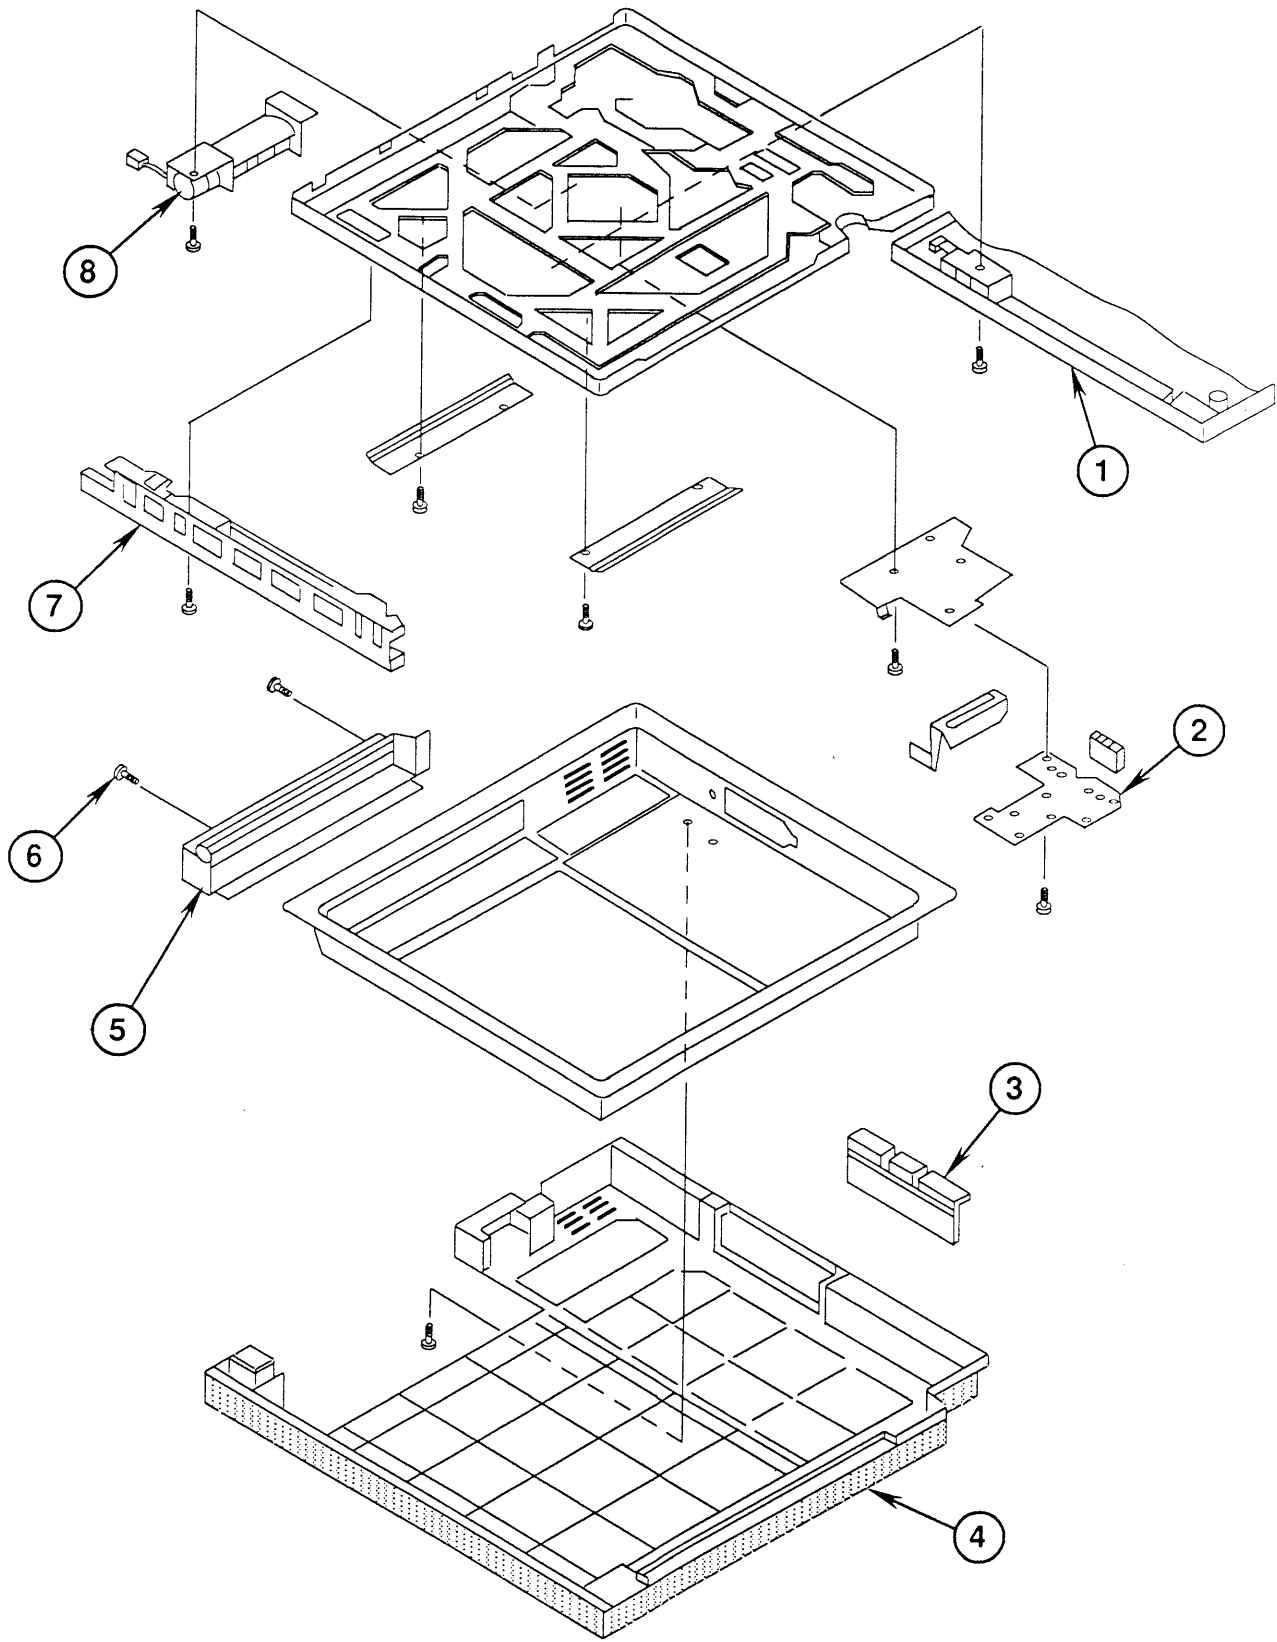

FIGURE 5
- IPL.11 Bottom Case, #2 (Figure 5)
□ BOTTOM CASE, #2 (Figure 5)